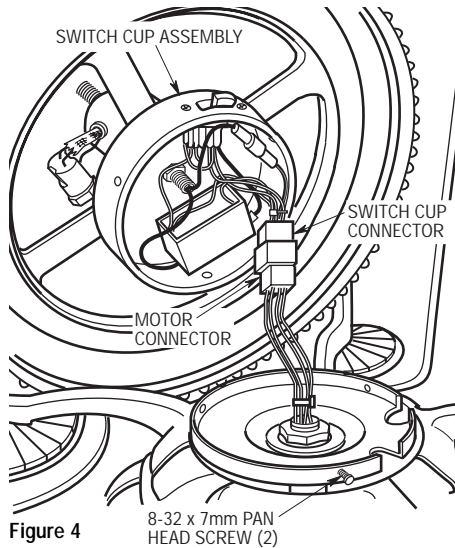
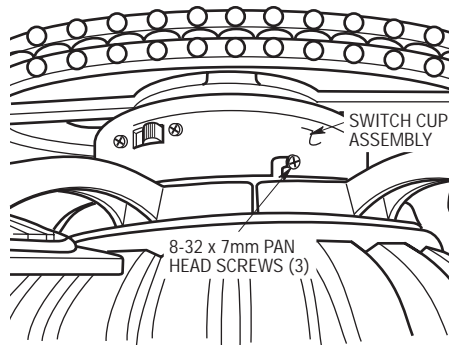

Figure 4
Figure 5
- 8. Carefully rest the decorative ring/light fitter/switch cup assembly on the fan blades, then engage the connector of the switch cup assembly with the motor connector (Figure 4). The two connectors are keyed and color-coded and must be mated correctly (color-to-color) before they can be engaged. Make sure the connectors are engaged properly.
- 9. Partially install two 8-32 x 7mm pan head screws (supplied) in the outer rim of the switch cup plate (Figure 4). Engage the L-slots in the switch cup assembly with these screws; rotate the switch cup and tighten the two screws. Install another 8-32 x 7mm pan head screw in the remaining hole in the switch cup (Figure 5).